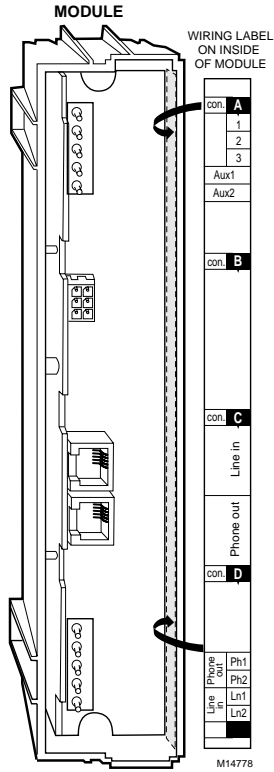

Fig. 5. Locating the wiring label inside the module.
1. Locate the wiring label inside the telephone access module. See Fig. 5.